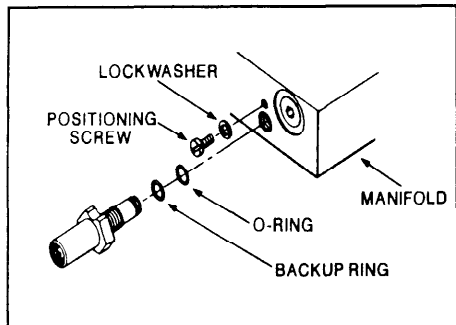

Figure 7.11
5. Remove the positioning screw and lockwasher (see Figure 7.11).
- c. Install the backup ring in the groove and push it to the side of the groove that is nearest the threads of the valve (see Figure 7.11).